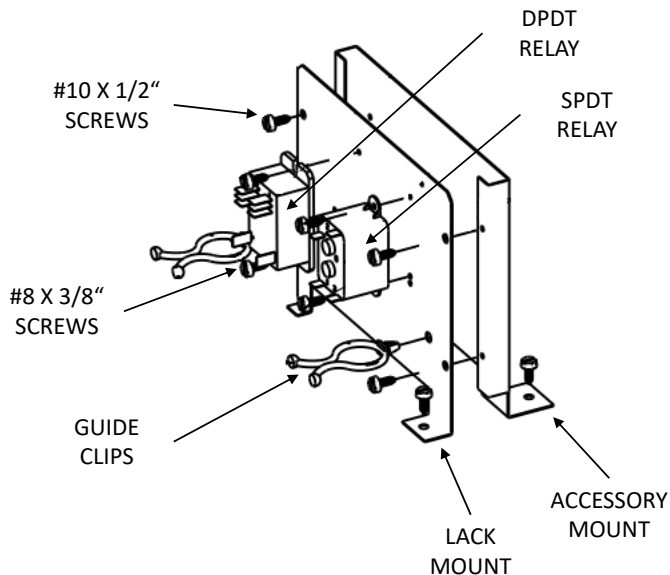

FIGURE 2
4. Attach the relay(s) to the LACK Mount using the #8 X 3/8" screws and press the Guide Clips into place. See Figure 2.